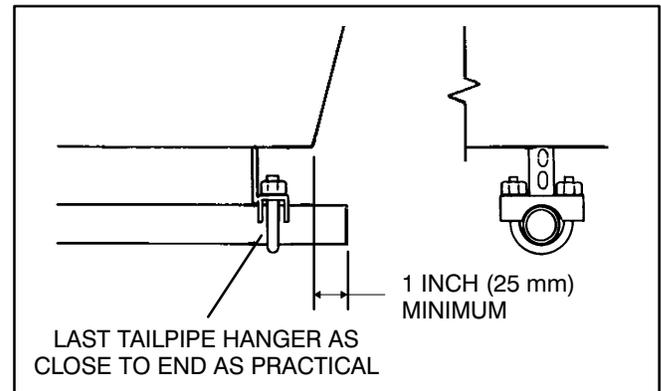

FIGURE 8-6. TERMINATING THE TAIL PIPE
6. Do not terminate the tailpipe underneath the vehicle. Extend it a minimum of 1 inch (25 mm) beyond the perimeter of the vehicle (Figure 8-6). Support the end of the tail pipe such that it cannot be pushed in and up under the skirt of the vehicle.